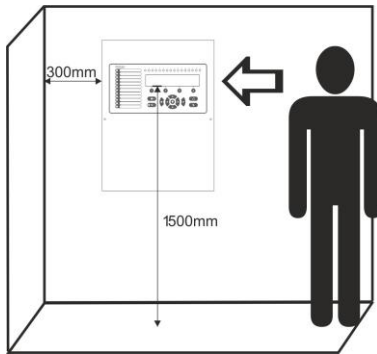

Figure 1
- The panel must be installed in a clean dry place and must not be subjected to impact or vibrations (Figure 1). It must be situated far from heating appliances. The temperature must be within -5°C and $+50^{\circ}\text{C}$. The fire panel is not waterproof!